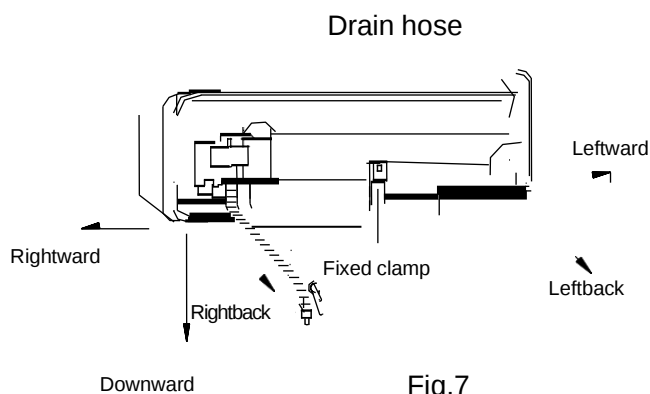

Fig.7
1. Connecting right back tube (similar to right lower tube) (Optional, Refer to Fig.7)
Notes: Left chart is available for the position of drain hose, refer to Fig.7. Right chart is available for the position of drain hose, refer to Fig.9.